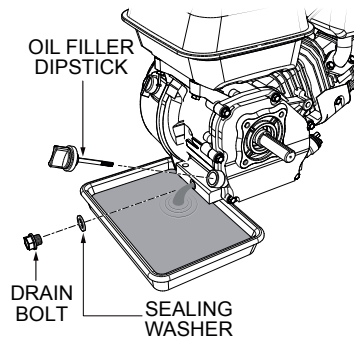

Figure 35. Draining Engine Oil
1. Unscrew the oil filler dipstick (Figure 35) from its holder.
2. Remove the oil drain bolt and sealing washer and allow the oil to drain into a suitable container (Figure 35).